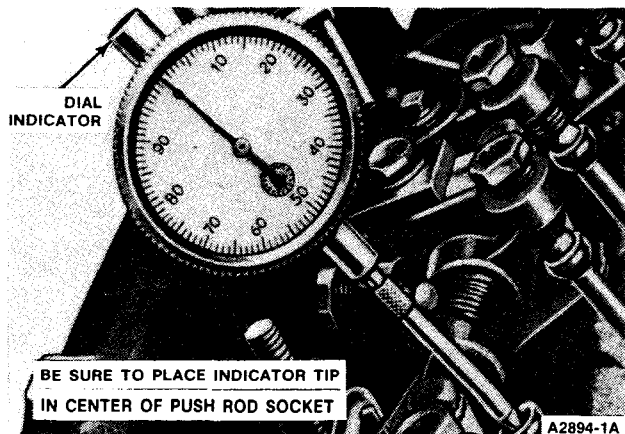

FIG. 3 Measuring Camshaft Lobe Lift—Typical
3. Make sure the push rod is in the valve lifter socket. Install a dial indicator so that the indicator tip is in the push rod socket and in the same plane as the push rod movement (Fig. 3).